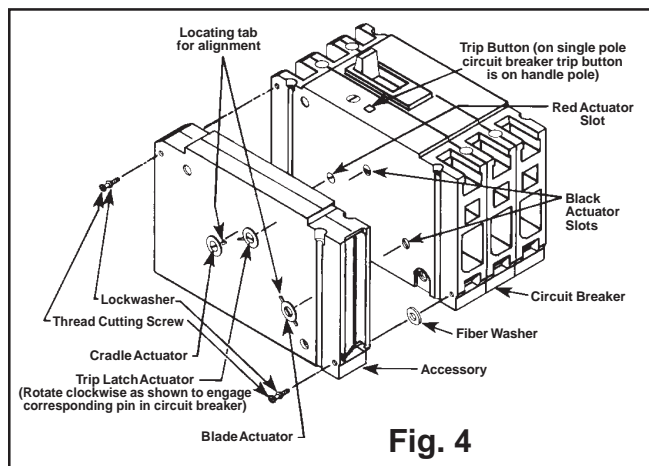

Fig. 4
(See Figure 4 for location of actuators.)
E. Before assembling accessory to the breaker be certain that all exposed accessory actuator slots are in line with the locating tabs (See Fig. 4) and the circuit breaker is in the tripped position.
NOTE: Fibre washer must be placed between the circuit breaker and the accessory as shown in Fig. 4.
2. While observing the slotted actuators in the accessory unit, turn breaker "Off" and "On" several times. The Blade Actuator slot should be close to aligning with the locating tabs when the breaker is "Off", and then move approximately 40° clockwise when the breaker is "On" (Ref. to Fig. 4).
3. Place breaker in "On" position and observe the trip latch actuator. The actuator slot should rotate a few degrees counterclockwise as the trip button is depressed. Also, after the breaker has "tripped" the Blade Actuator slot and the Cradle Actuator slot should be close to aligning with their locating tabs (Ref. Fig. 4).